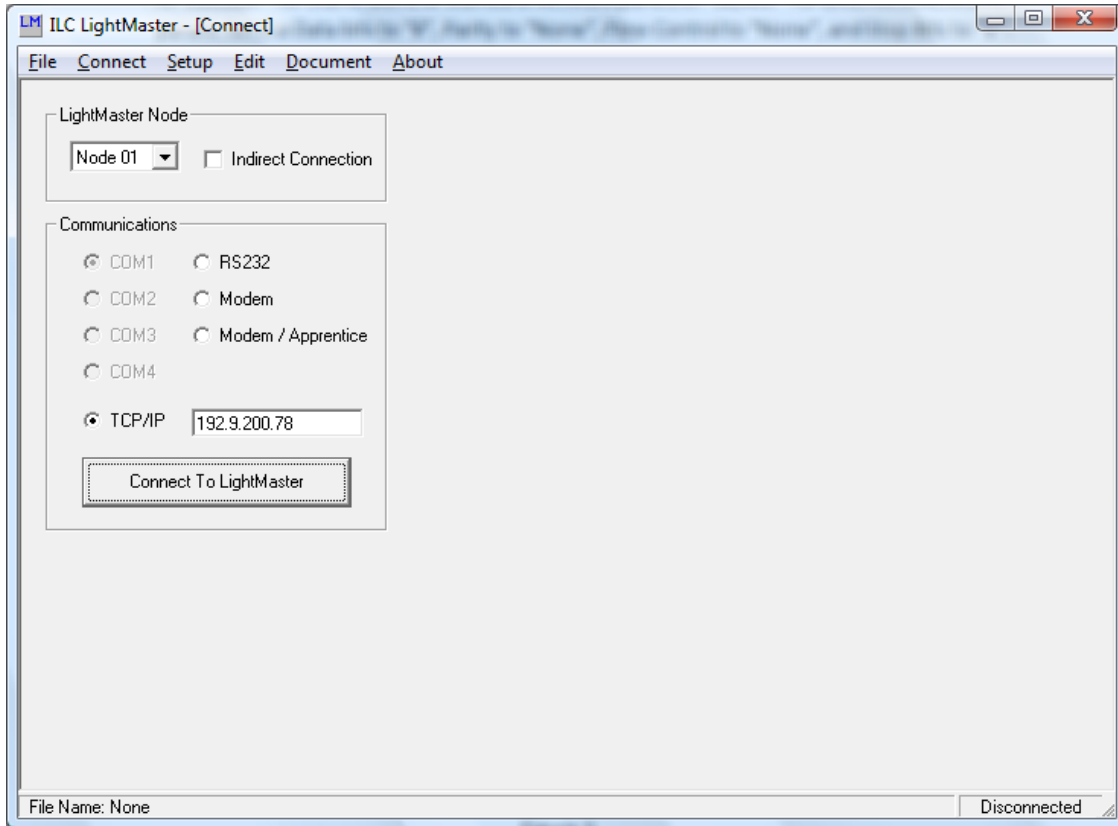

Figure 4
- To Connect to a stand-alone panel using the LightMaster Pro software open the program, select “TCP/IP”, enter the IP address, select the “Node Number”, and press the “Connect to LightMaster” button as shown in Figure 4.